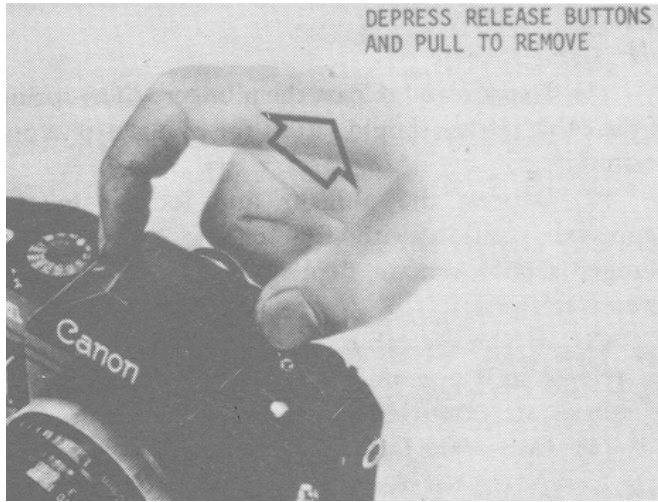

FIGURE 1-29. Removing pentaprism.
(1) Remove the lens from the camera body.
(2) Lock the mirror up.
(3) Open the back of the camera.
(4) Remove the pentaprism by squeezing both release buttons (figure 1-29) with your fingers and sliding the pentaprism toward the rear of the camera.